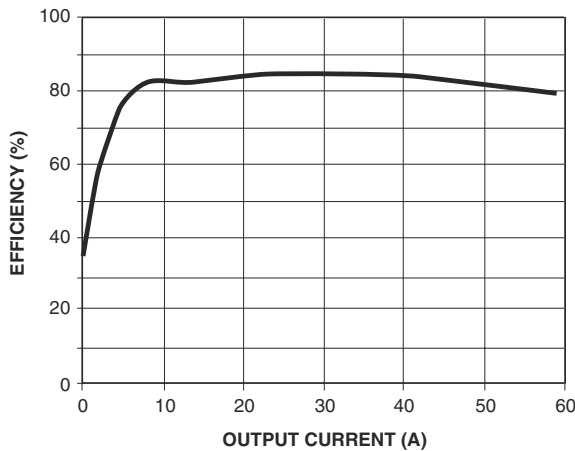

Figure 8. AC Loadline Waveform
- 15. You will see a waveform that looks something like Figure 8. Use the horizontal cursors to measure V_{ACDRP} and V_{DCDRP} as shown.